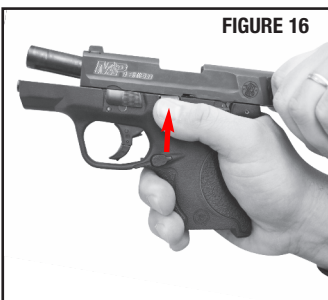

FIGURE 16
- In order to lock the slide in the open position, allow the slide to move slightly forward from the rearmost position while pressing upward on the slide stop (FIGURE 16). You are now able to safely check the barrel chamber and bore visually for any obstructions. You must be certain there are no cartridges in the chamber or obstructions in the barrel.